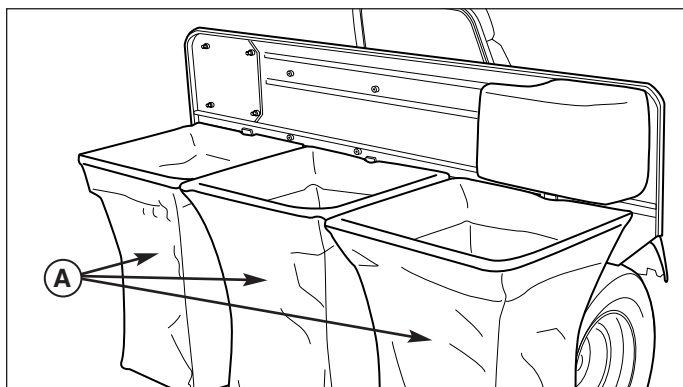

Figure 16. Remove the Bags
2. Remove the bags (A, Figure 16) by lifting them off their hooks. Empty any grass out the bags.